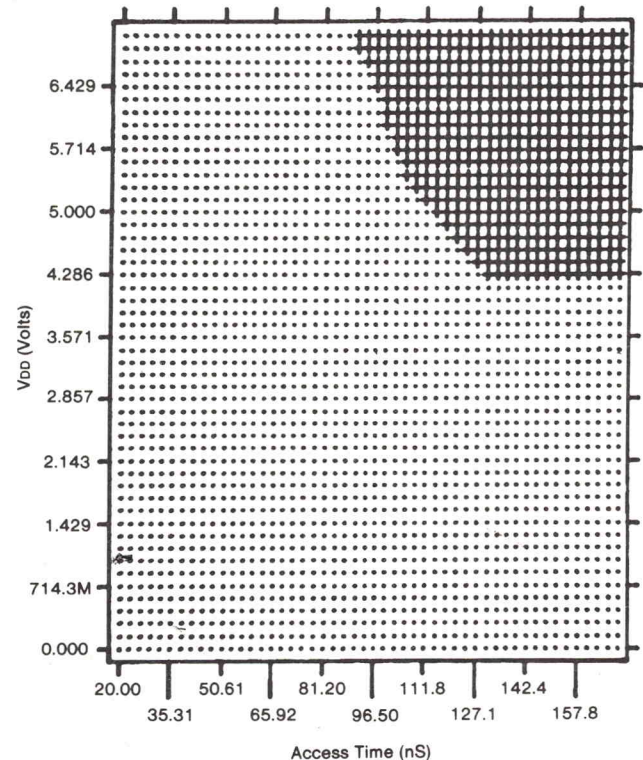

Figure 2 — Schmoop plot, Intel 2118
(2) It was felt that timing overlap caused by process variations and circuit design abnormalities might cause a timing specification problem. Two problems were noticed. Values of  $t_{RAH}$  and  $t_{CAH}$  were out of specification over the operating voltage range at 70°C. The component became non-functional at 4.3V as indicated in the schmoop plot (Figure 2). This seemed rather close to the 4.5V lower limit specification.